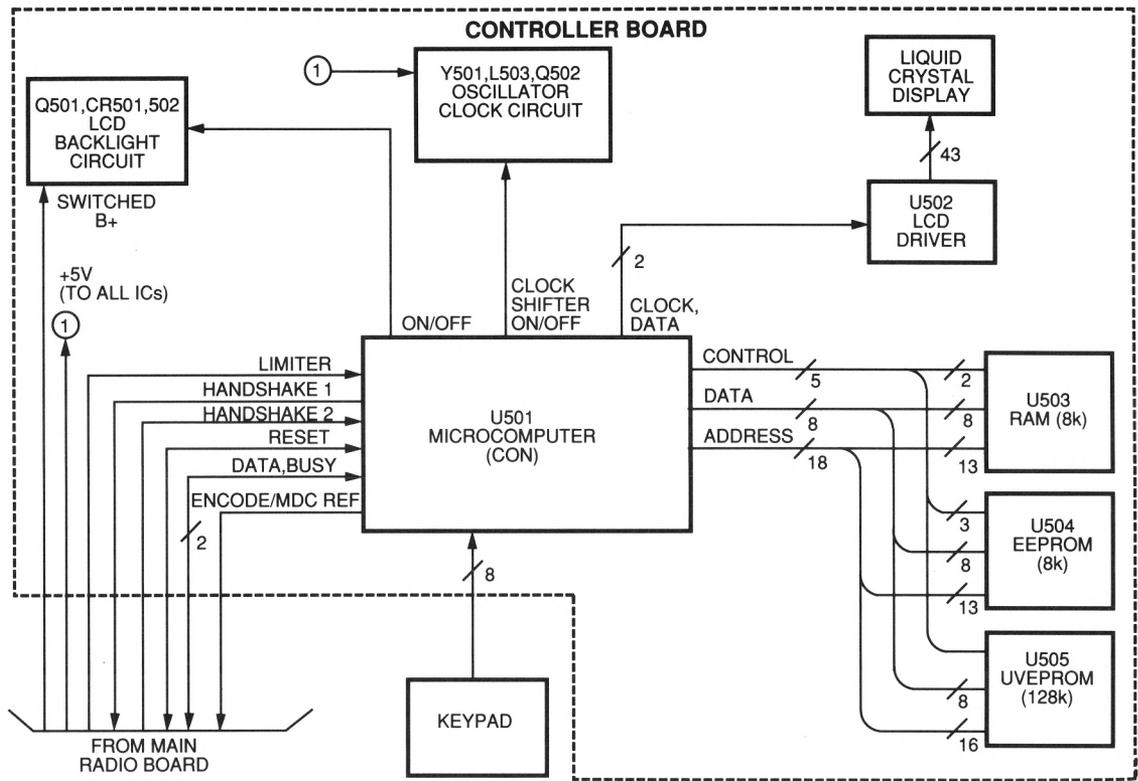

Figure 4. Controller/Display Circuitry Block Diagram
*Refer to Figure 4 and the controller board schematic diagram in the applicable service manual.*